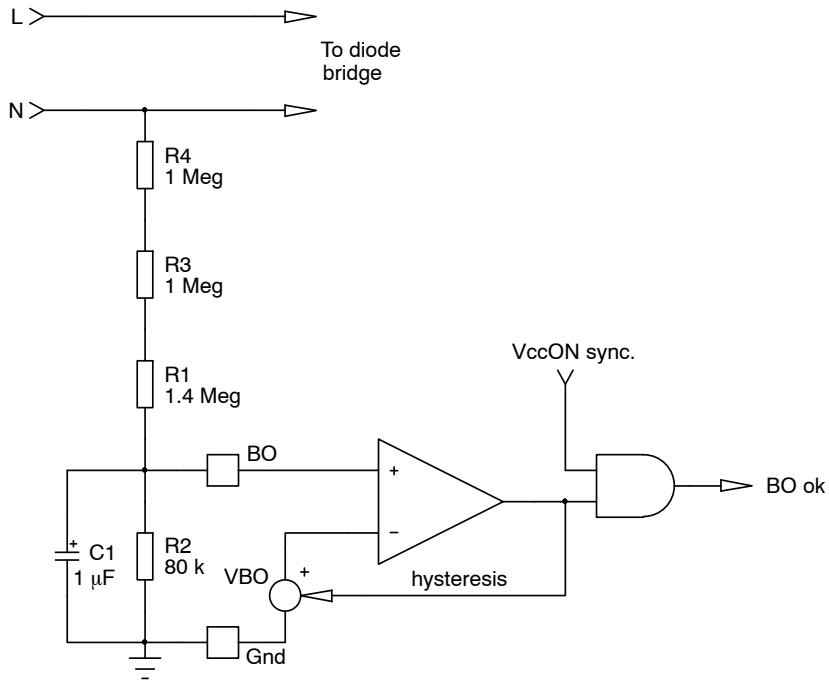

Figure 21. A simple comparator monitors the input voltage via a single pin. When this voltage is too low, the pulses are stopped and the V_{CC} hiccups.
Brown-out (BO) is a means to protect the converter against an erratic behavior that can occur at the lowest input voltage level. By safely stopping the output pulses when the mains is below a predetermined value, the converter prevents thermal runaway, greatly improving its robustness. Brown-out protection is another way to avoid an erratic hiccup mode when too low of an input voltage limits the power delivery. Some applications, such as printer power supplies, forbid this kind of operations and impose a clean stop. In that case, brown-out detection/protection is the way to go. Figure 21 shows a simplified implementation in the controller.